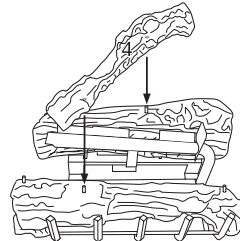

**Figure 24 - Installing Log #2, Model CD42M-A**
2. Rest left side of log #2 (front log) on top of log #1 and right side onto pin located on right side of grate extension (see Figure 24).